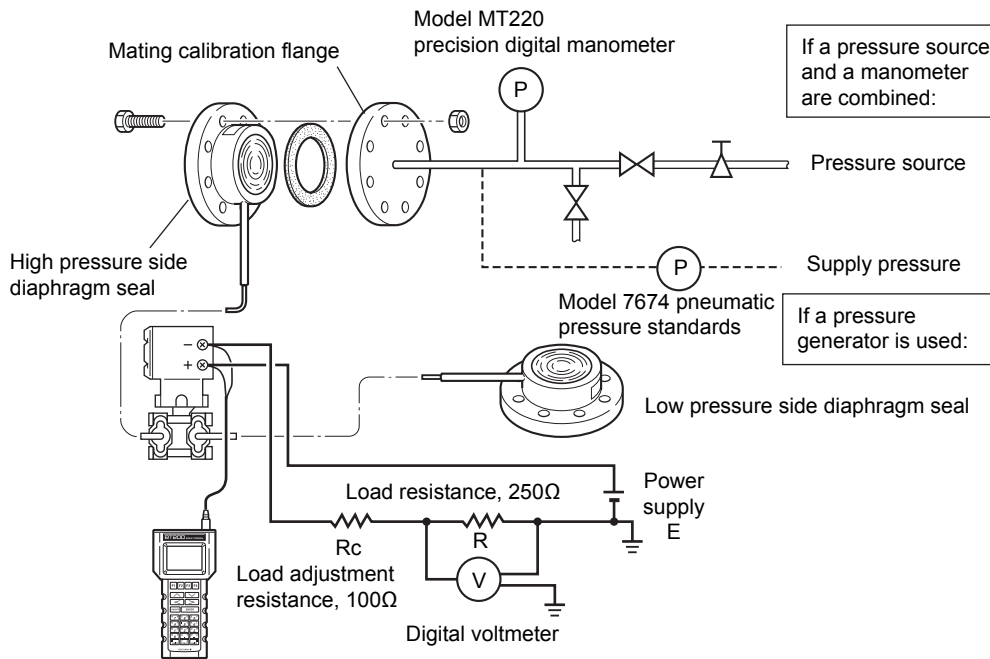

Figure 7.1 Instrument Connections (4 to 20mA output)
- 1) Connect the transmitter and apparatus as shown in Figure 7.1 and warm it up for at least five minutes.
- 1) Connect the instruments as shown in figure 7.1 and warm up the instruments for at least five minutes.